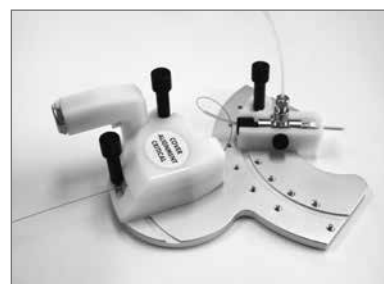

Figure 16B: Lid correctly installed on Uncoated Tip Module
4. Place the lid on the UTM and secure the lid with the locking screw (Figure 16B)